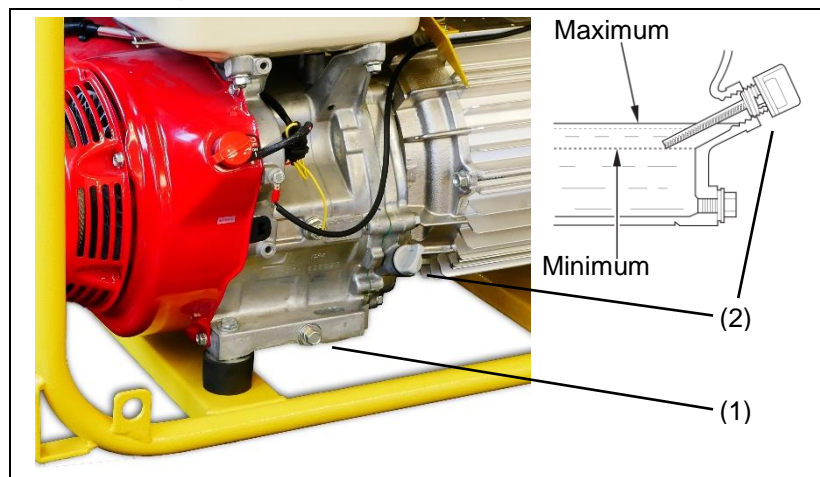

Fig. 6-2: Oil dipstick
1. Unscrew the dipstick (Fig. 6-2-(2)) anti-clockwise and wipe it off with a clean cloth.
1. Remove the oil dipstick (*Fig. 6-2-(2)*).
3. Unscrew oil drain screw (*Fig. 6-2-(1)*) carefully and wait until oil has completely run off into the collection container.